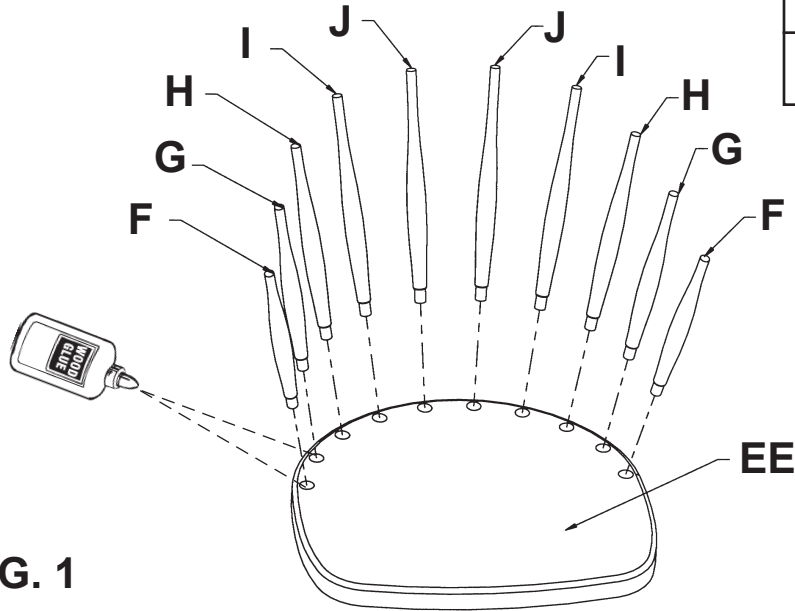

FIG. 1
- 1) Lay out the Arm Posts, Arm Spindles and Back Spindles in ascending order on the left and descending on the right (F, G, H, I, J, J, I, H, G, F). Spread glue evenly in the holes in the Seat (EE). Working quickly before glue sets, insert the chucked end of the turnings, starting with Arm Posts (F) in the front holes, Arm Spindles (G) in the second hole, Back Spindles Short (H) in the next, etc. See Figure 1.